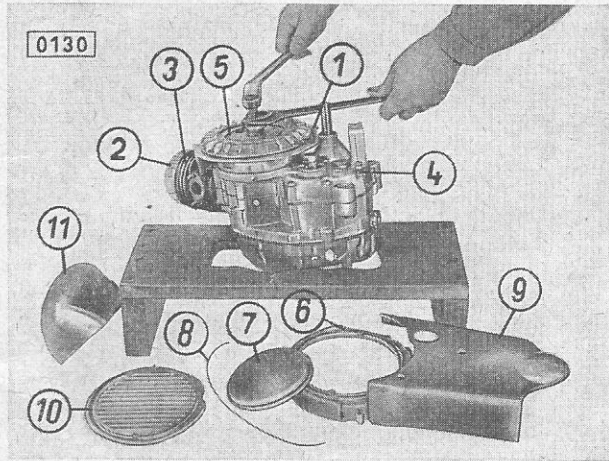

Fig. 3: Removing the flywheel magneto:
1. Remove fan hood (fig. 3/11):
2. Remove fan cover (fig. 3/10):
3. Remove fan housing (fig. 3/6):
4. Remove cover plate (fig. 3/7):
Take off circlip (fig. 3/8) and disk.
5. Remove flywheel (fig. 3):
Unscrew nut, remove flywheel with fan wheel (fig. 3/5) by means of puller (special tool part. no. 050.7012).
1. Unscrew nuts and remove the cylinder head (fig. 3/2).
2. Remove cylinder (fig. 3/3):
2. Remove base plate (fig. 3/1):